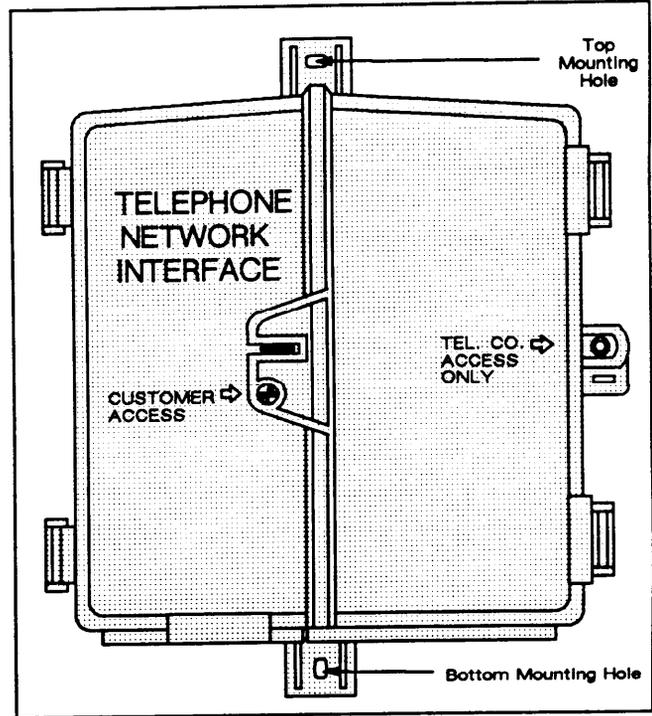

Figure 2. DDL112 DualLine Plus Remote Terminal in the Secured Position (Closed)
- (6) Seal the TEL. CO. access cover if required. See Figure 2.